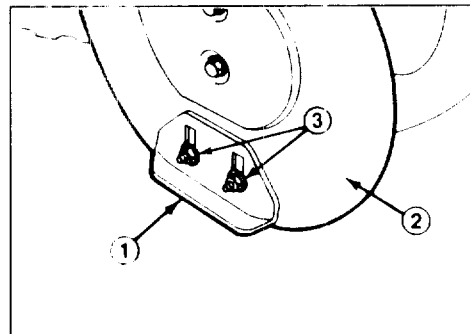

Figure 17
3. Move snowthrower to a level surface. Next, loosen (4) flange nuts securing both skids to the auger side plates (Fig. 17). Skids must slide up and down.